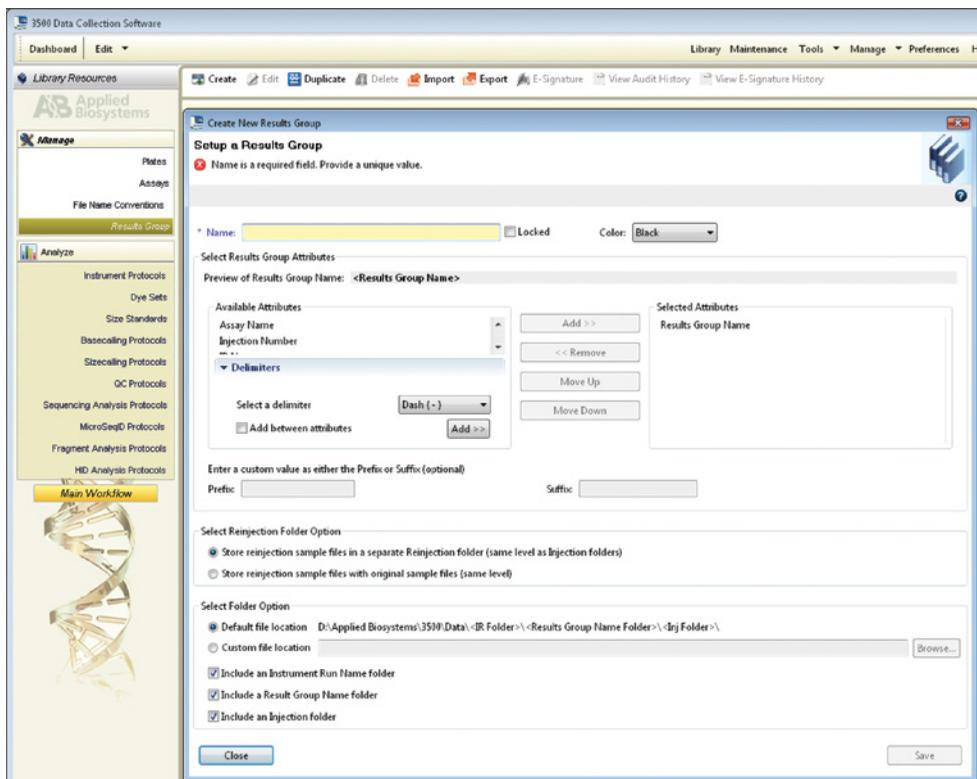

Figure 7. The ‘Create New Results Group’ window.
- 2.f. To create a new Results Group (Figure 7), navigate to the Library. Select **Results Group**, and then select **Create**. Alternatively, a previously created Results Group can be used.